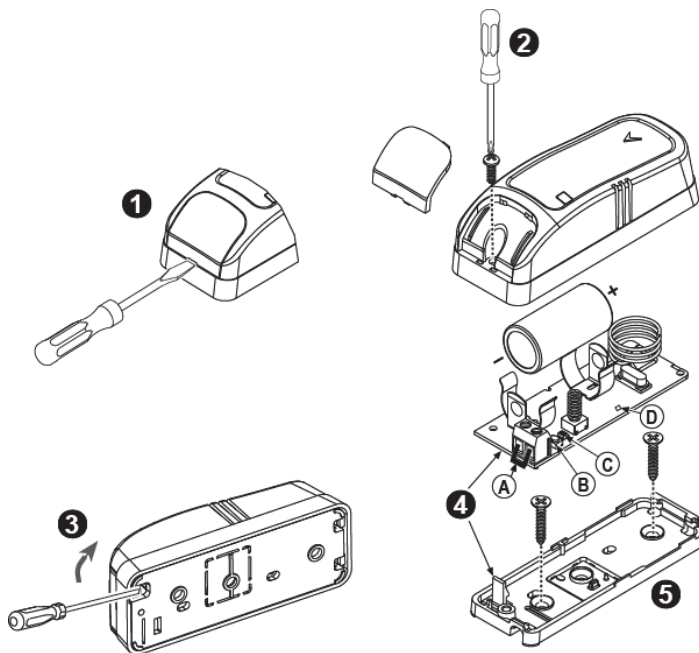

Figure 2. Mounting
For further reliability, the TMD-560 PG2 tamper switch is activated when the detector cover (see Figure 2) is removed.
2. Insert the battery between the battery clips (see Figure 2), at the correct polarity. **For proper operation, only a Lithium battery (type CR123 or equivalent) should be used.**
Before testing, separate the base from the cover (see Figure 2).